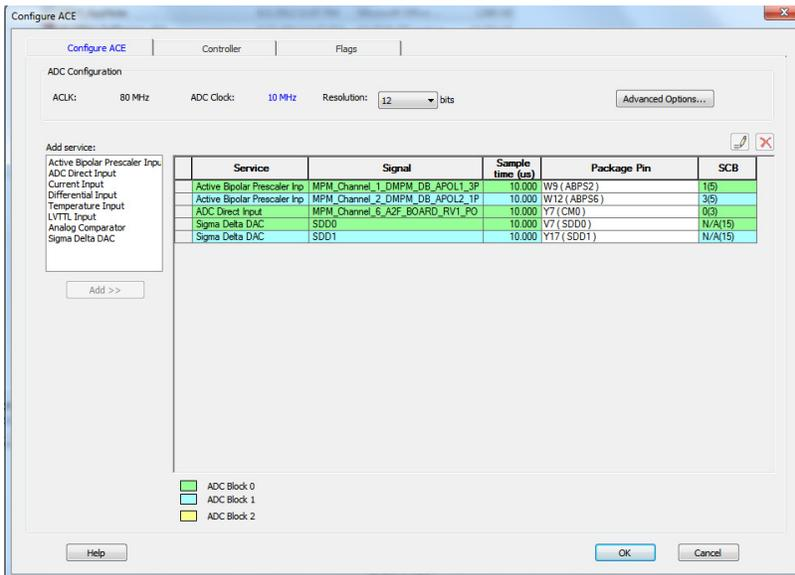

Figure 15 • ACE Configurator Before Adding a Service
2. Double-click the ACE block to configure. It looks similar to Figure 15.